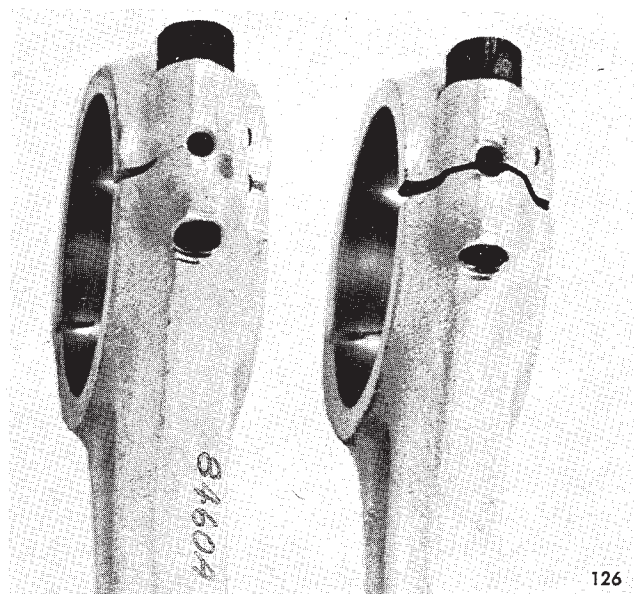

FIGURE 26 — CONNECTING ROD JOINTS
9. Install connecting rod screws. Tighten screws, using T-2953, gradually and move cap back and forth gently until it is properly aligned with the connecting rod. Inspect joint — if joint is visible, improper alignment is indicated. Refer to Figure 26 for illustration of proper joint alignment. Torque connecting rod screws as noted below: